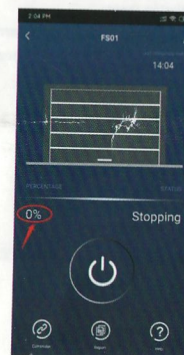

figure 20
3. Lower limit setting: when the door is closed to the lower limit, press the DOWN button of the wifi external device, the LED indicator lights, and the lower limit is successfully saved, the APP displays 0% (Figure 20);